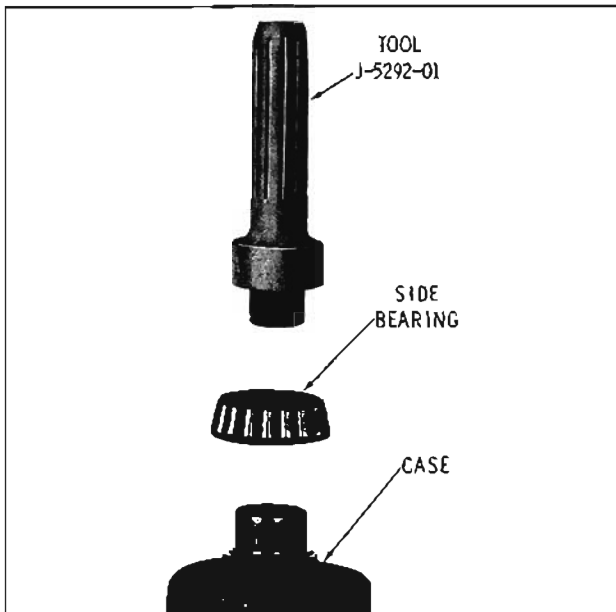

Fig. 10-41 Installing Side Bearing
2. If side bearings were removed, lubricate the bearings and install on case hubs as shown in Fig. 10-41.